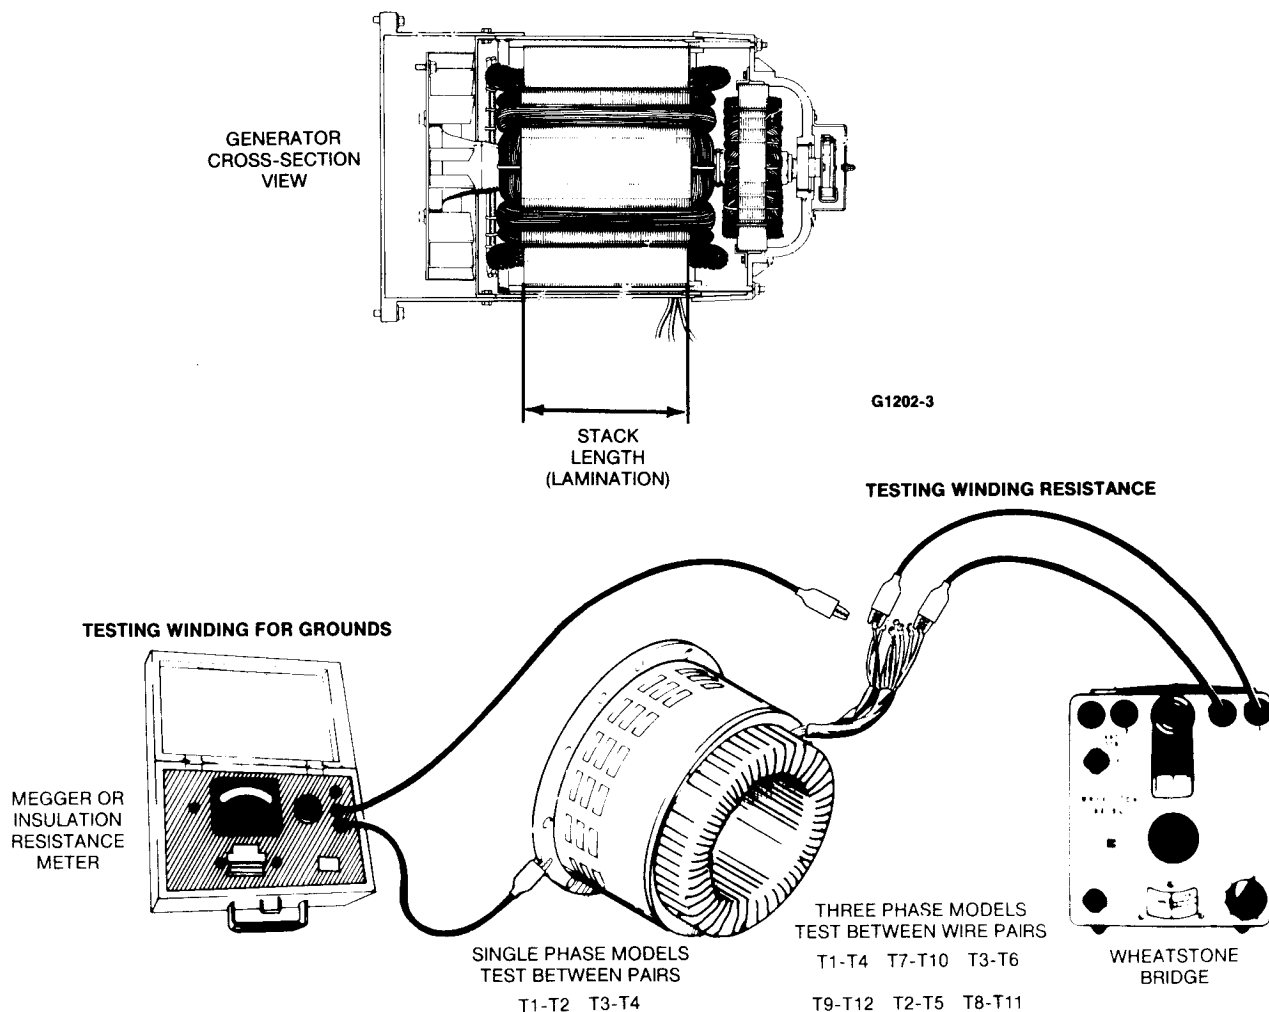

FIGURE 7-7. TESTING MAIN STATOR WINDINGS
2. Check resistance across F1+ and F2- leads. The resistance values at 77°F (25°C) should be as shown in Table 7-1. See Figure 7-7 for determining the stack length. If resistance is not as shown, replace the defective rotor with a new, identical part.
Test the main stator (Figure 7-7) for opens, shorted windings, and grounds as follows.
Test for continuity across stator coil leads. Each coil should have equal resistance. Use an accurate instrument for this test such as a Wheatstone Bridge. Resistance readings should be as shown in Table 7-2 at 77°F (25°C)  $\pm 10$  percent. See Figure 7-7 for determining the stator stack length.